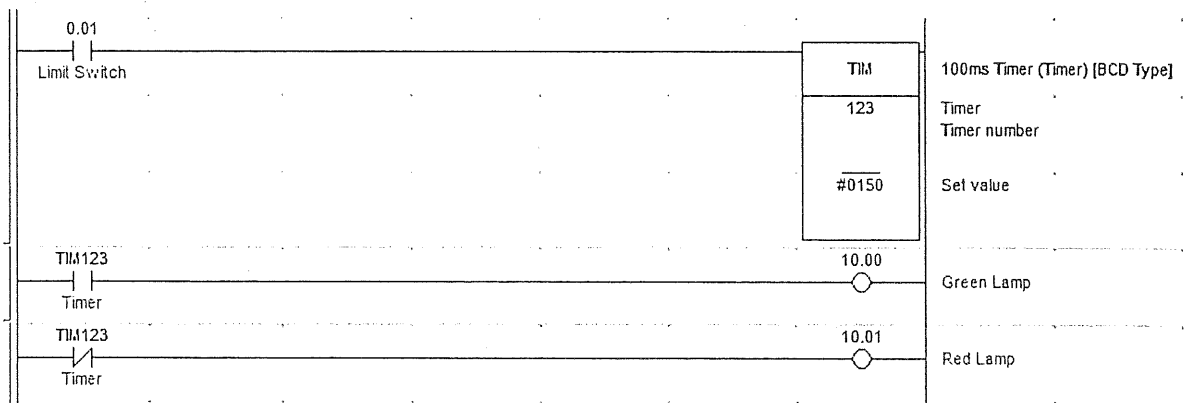

Figure 1
a) Describe three (3) advantages of using timer instruction in PLC system. (6 marks)
c) Refer to the ladder diagram program in Figure 1.